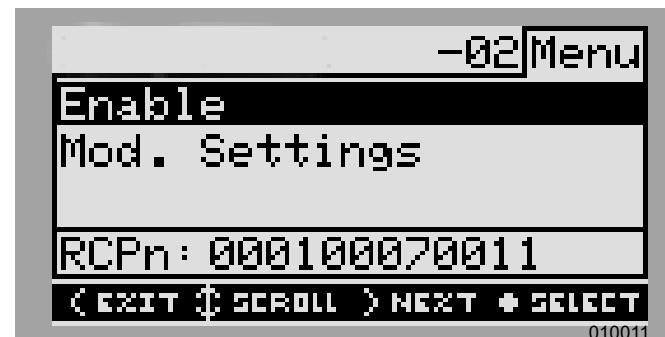

Figure 6-7. Enabling Inverter (2 of 4)
- See **Figure 6-7**. Highlight Enable and press the center button.